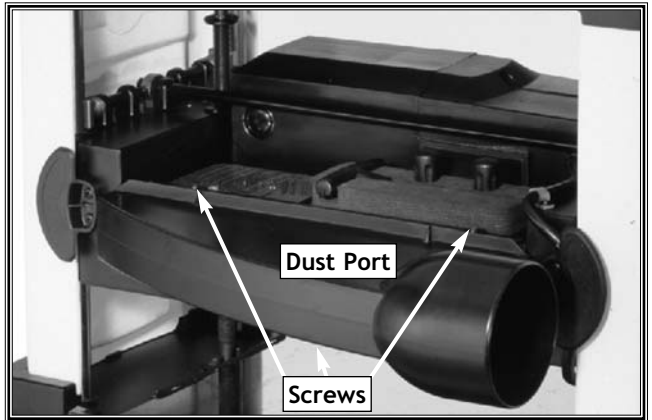

Figure 15. Remove the screws and dust port.
2. Use a Phillips® screwdriver and remove the three screws that secure the dust port to the planer, and remove the dust port. See Figure 15.